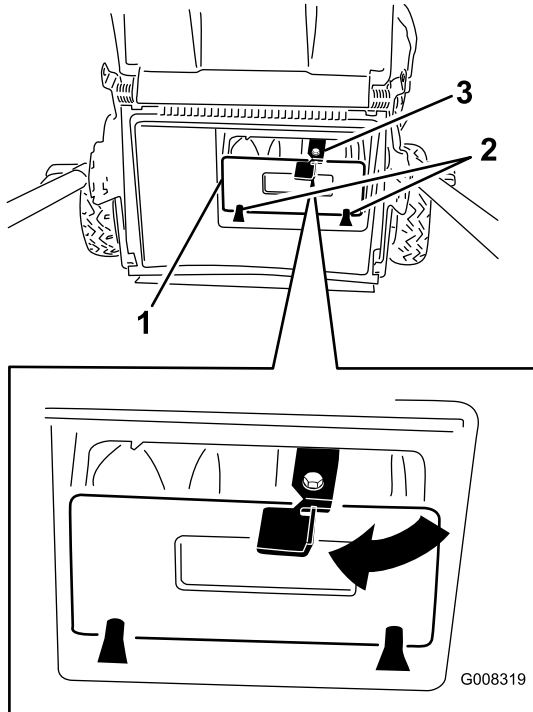

Figure 28
**Important:** Ensure that the rear discharge plug is locked in place (Figure 28).